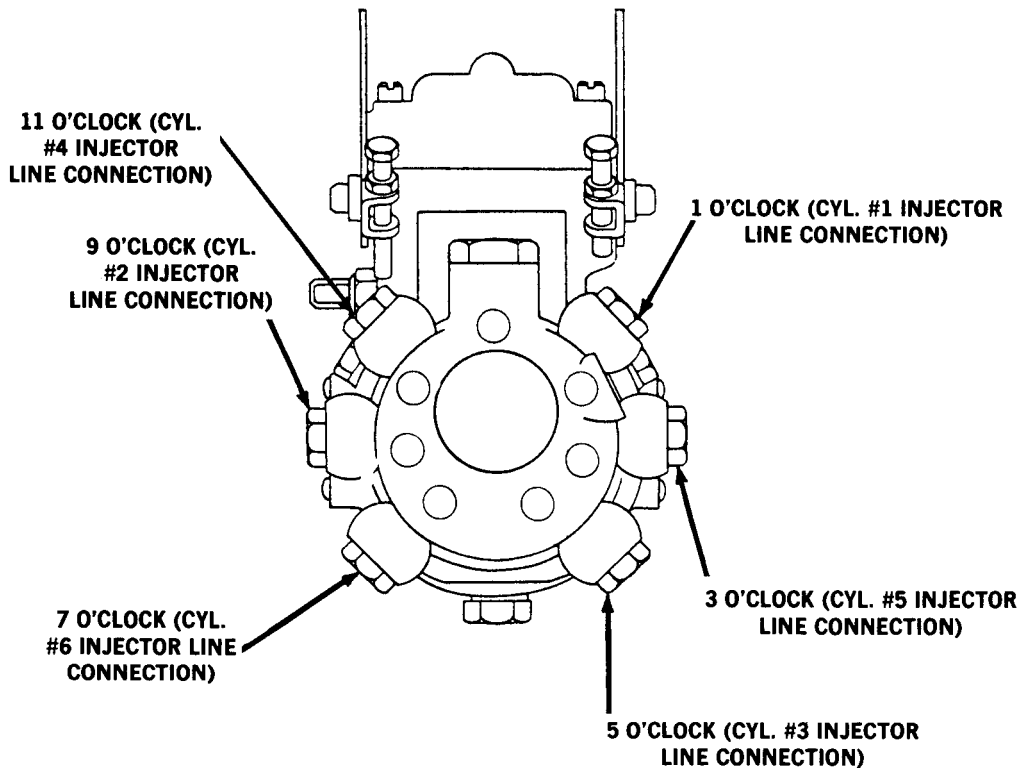

Figure 3-12. Fuel Line Installation
h. Remove fuel passage bolts from ports of fuel injection pump and connect fuel lines to their respective ports. Refer to figure 3-12 for proper installation positions. Use new gaskets when installing fuel lines. Tighten fuel passage bolts to 35 foot-pounds.